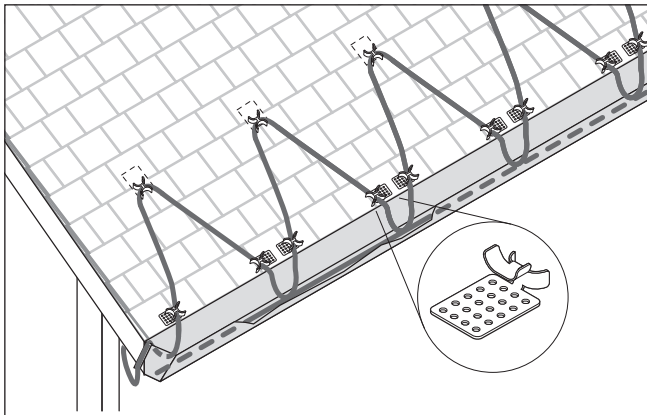
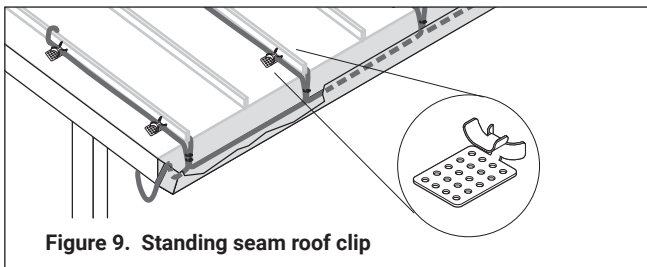

Figure 7. Standard roof clip attachments
Figure 9. Standing seam roof clip
- Roof clips may be attached to a shake or shingle roof with nails or screws as shown in Figure 7. Roof clips may be attached to a metal roof using screw, nail or adhesive as shown in Figure 9. (See H56723 installation instruction for more details.) Reseal the nail or screw holes if necessary before installing heating cable in the clips.